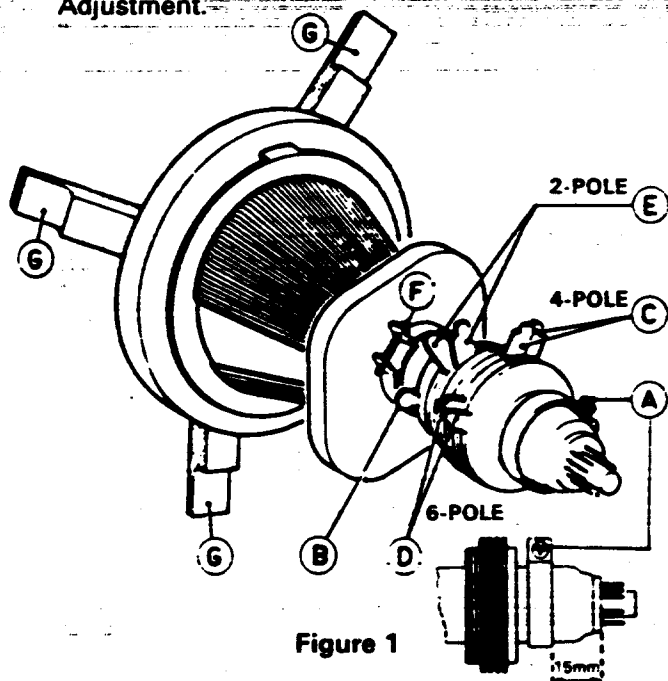

Figure 1
**Color Purity Adjustment (Refer to Figure 1)**
2. Remove the rubber wedges (G) and slide the yoke forward until it rests firmly against the bell of the CRT.
4. Place the multi-pole Purity and Convergence Assembly in the position shown in Figure 1.
5. Tighten screw (A) and turn securing ring (B) counter-clockwise. Position the unit so that it faces in an East/West direction and degauss the instrument.